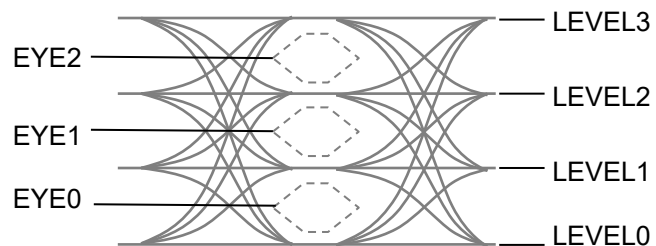

Figure 3.9.7-1 Positions of EYES and LEVELS
*1: For the positions of LEVEL0 to LEVEL3, and EYE0 to EYE2, refer to Figure 3.9.7-1.